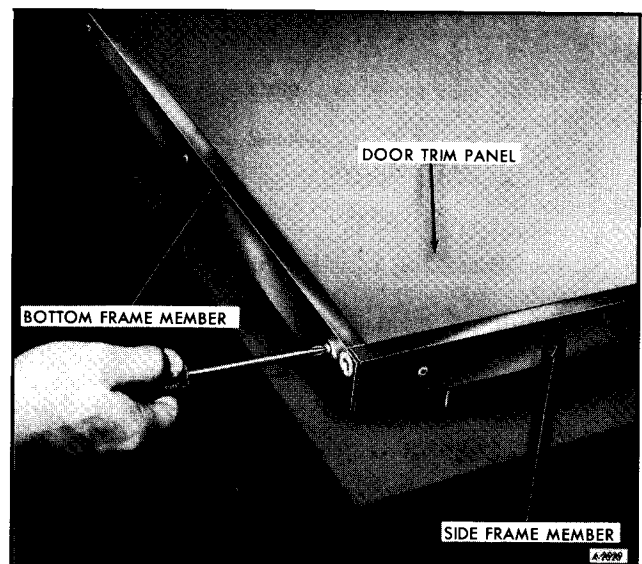

Figure 18—Removing Bottom Frame
2. Remove bottom frame member by removing three screws, as shown in Figure 18.
3. Install bottom frame member and secure with three screws (figure 18).